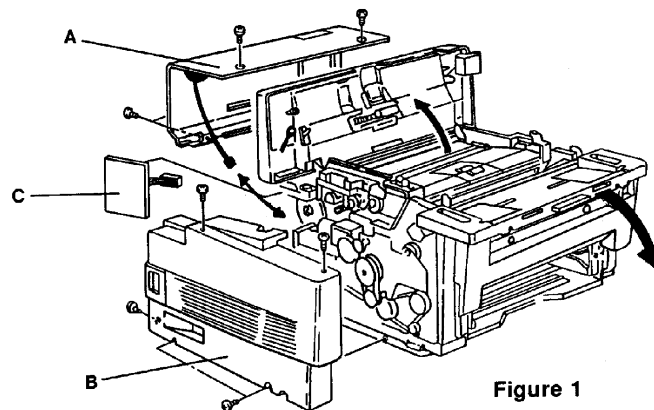

Figure 1
2. Press the front cover release button and open the front cover. Press the scanner release button and lift the scanner cover. Remove the left cover [B: 6 screws], and the NCU [C: 1 screw]. Figure 1.